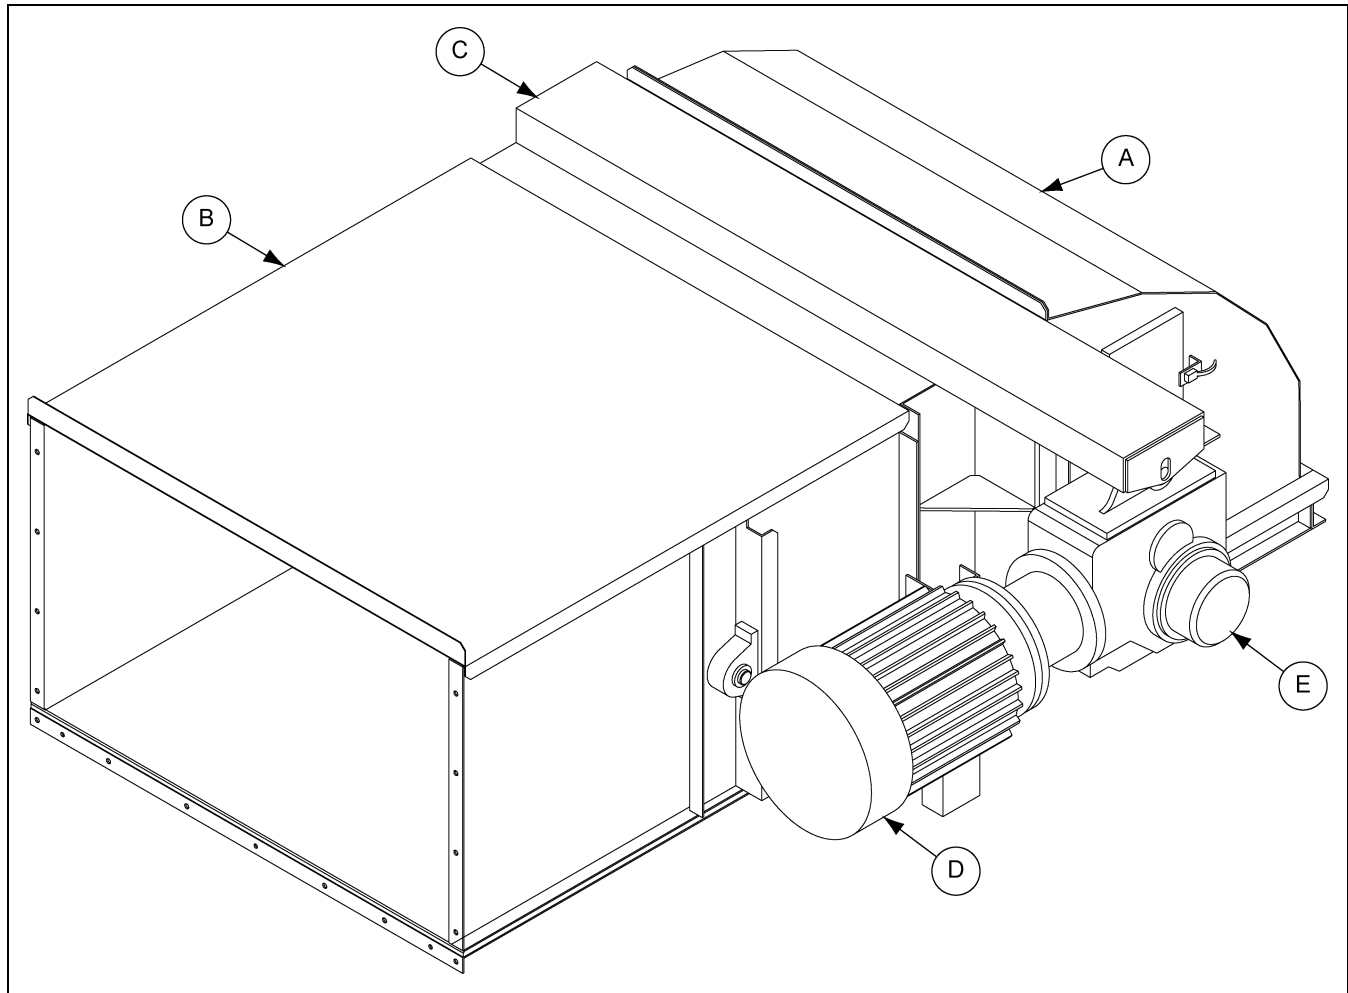

Figure 4Z Right Angle Reducer Drive
In some cases, where there is not space on top of the head for the motor and motor mount assembly, a right angle reducer can be used. A right angle reducer (E) and motor (D) are shown in Figure 4Z. When a right angle reducer is used, there is also no need for a belt drive package because the motor output is in a direct line with the reducer input. To install a right angle reducer drive, the reducer (E) is mounted onto the head shaft.